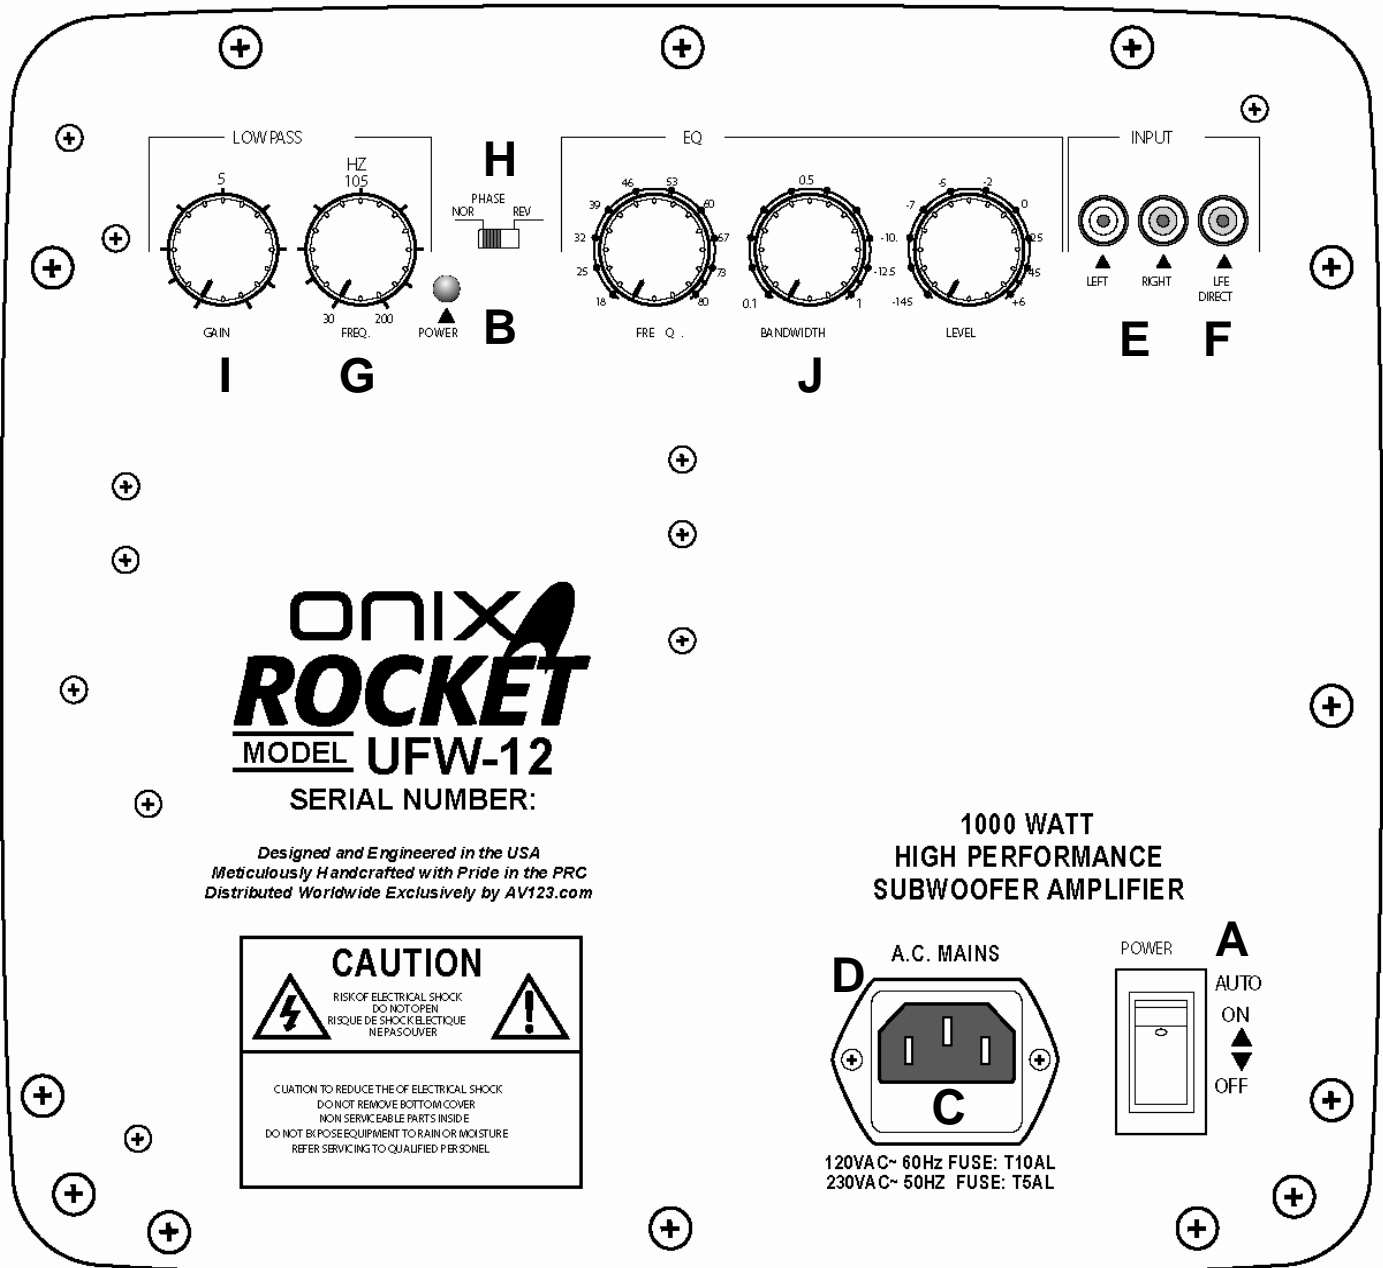
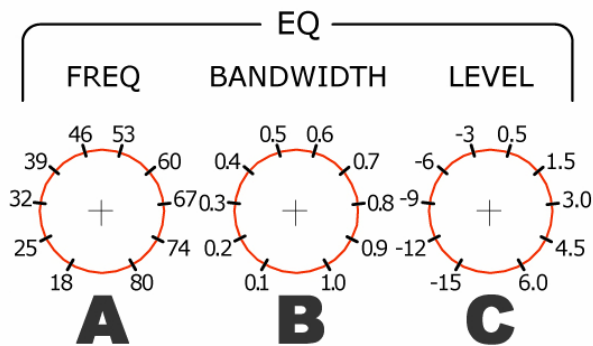

Figure 1.1
Figure 5.1
1.1 Control Panel Features (see figure 1.1)
The phase switch (see "H" on figure 1.1) controls the *relative* phase of the subwoofer to best reinforce the other loudspeakers in your system. Adjustments to this control will change your UFW-12's interaction with the rest of your speaker system, providing the least cancellation, and thus the best response in *any* room. With SPL meter in hand (or, better yet, on a tripod), play an 80Hz tone (for this exercise the crossover point must be set to 80Hz) and flip the switch between "NOR" and "REV." Watching your SPL meter, find the position that results in the biggest peaks in sound pressure levels (i.e. reads highest on the meter). This setting indicates the least amount of bass wave cancellation, and should be held constant until the subwoofer or other speakers in your room are moved, or placement is altered in any way. With typical front corner placement in most rooms, you may very well find the "NOR" setting to be optimum.
One of the most impressive features of your UFW-12 Subwoofer is the built-in parametric EQ shown as "J" in figure 1.1 and detailed in figure 5.1. Depending on the nature of your room or listening environment, your subwoofer may be reinforcing certain frequencies in the UFW-12's operating range such that they are significantly
louder (at your listening position) than the desired response. Using the three dials shown in figure 5.1, the UFW-12's parametric equalizer will allow you to flatten up to 1 peak in your room, thus giving you the flattest (most natural) overall response.
Once your data is plotted as shown in figures 5.2 and 5.3, use the Frequency (A), Bandwidth (B), and Level (C) controls (as shown in figure 5.1) to adjust your subwoofer's response as follows: